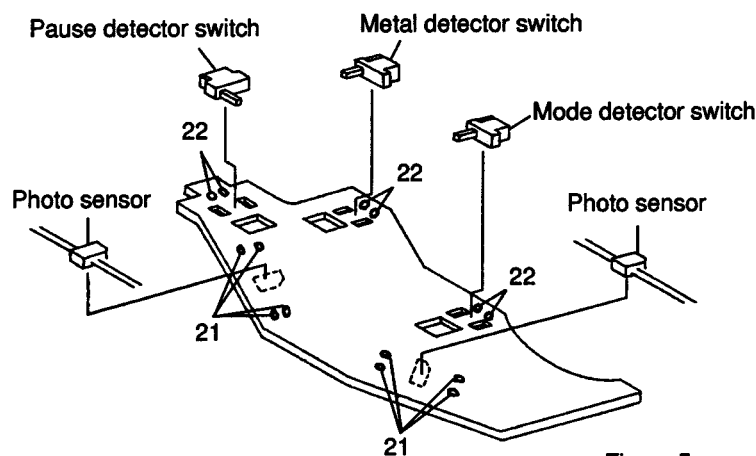

Figure 5
- (1) Remove eight solders 21 as shown in Figure 5.
- (2) Remove the photo sensor from the photo P.C.Board as shown in Figure 5.
- (3) Solder the legs so that the photo sensor is set as indicated by [ ] in Figure 5.
- (1) 8ヶ所の半田21を外し、フォトセンサーをフォト基板より外します。(図5参照)
- (2) 良品のフォトセンサーを図中の[ ]と同じ方向になる様に半田付けします。(図5参照)
- (1) Remove six solders 22 with which the switch is fixed as shown in Figure 5.
- (1) スイッチを止めている6ヶ所の半田22をそれぞれ外します。（図5参照）